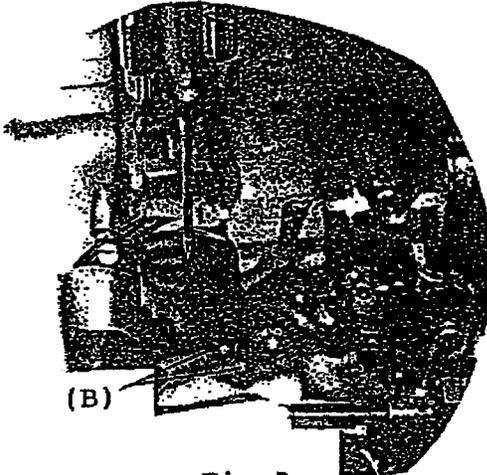

Fig.5
Set the rear needle guard (Looper lever needle guard) so that it barely contacts the needle when the looper point approaches the left side of needle. Adjustment can be made by loosening the two screws (B) / Fig.5 and re-set the needle guard at proper position.